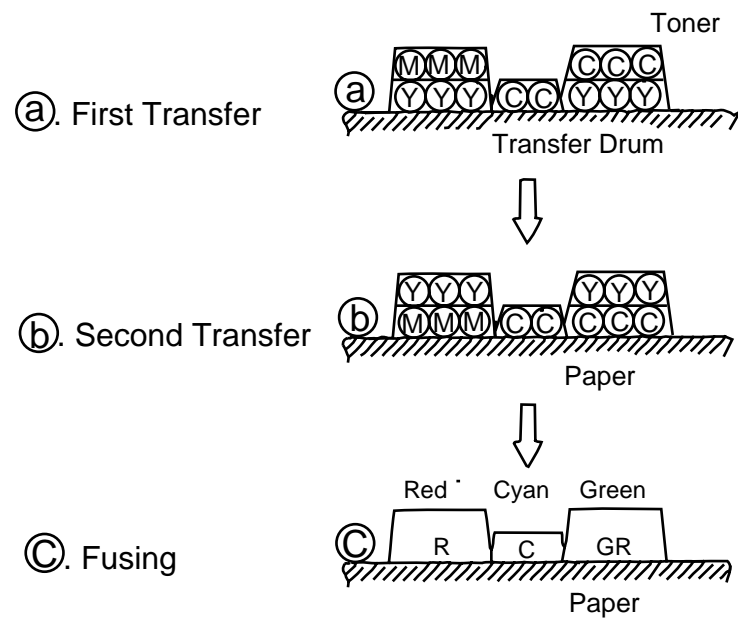

Fig.4-4
- The toner image developed using the primary colors is transferred to the transfer drum for the printed color combination as shown in Fig.4-4 (a).
- The toner image formed on the transfer drum is transferred to the transported paper as shown in Fig.4-4 (b).
- The toner on the paper is fused by the thermal fixing unit to fix the toner image onto the paper as shown in Fig.4-4 (c).